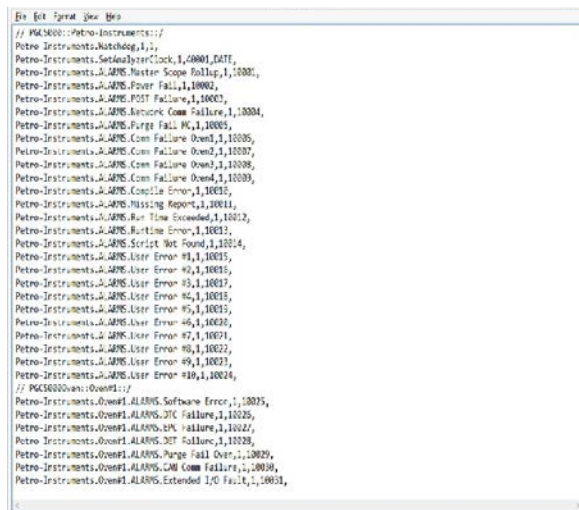

Fig. 7.18. CSV File Example
3. The csv file contains all of the information for the Control system (see Figure 7.18).
The local input option connections are Purge Air and Purge DPS (see Figure 7.18). These alarms are not customer configurable.